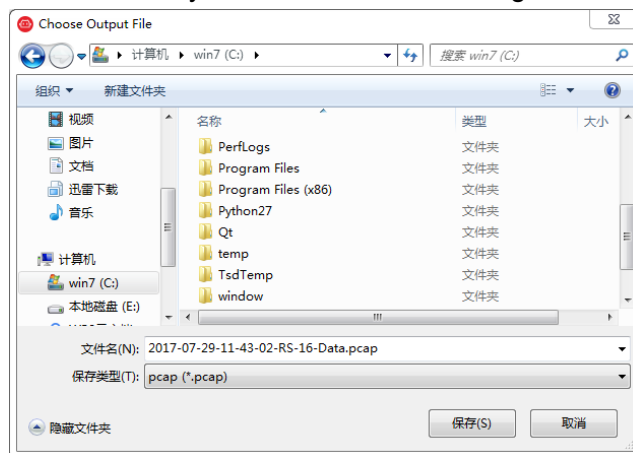

Figure A-6: RSView record data
2. In the dialogue box “**Choose Output File**”, choose the save path and file name of pcap file, click **Save** button (Fig. A-6), RSView begins writing data into pcap file. (Note: RS-LiDAR-M1 will generate enormous data, therefore, it is best to use a fast, local HDD or SSD, instead of a slow subsystem, such as USB storage LiDAR or network drive.)